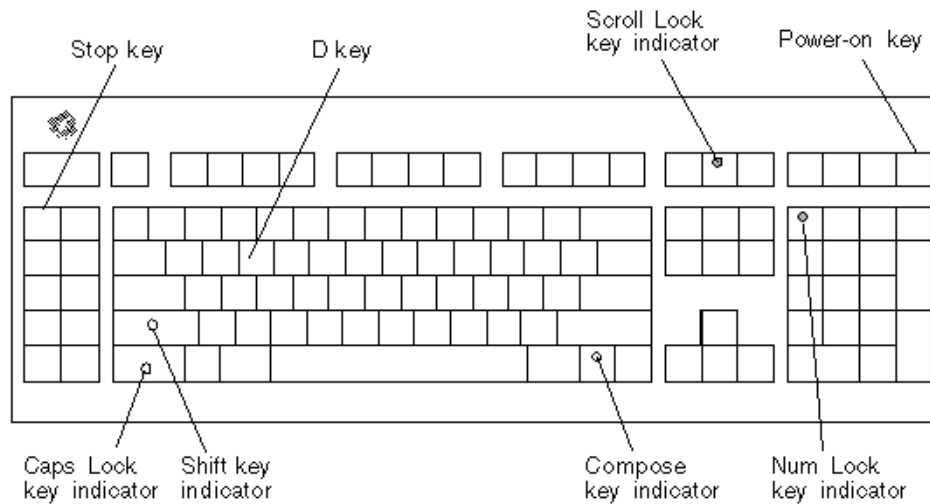

Figure 3-2 Sun Type-5 Keyboard
- 2. At the keyboard, power cycle the system unit by simultaneously pressing the Shift key and the power-on key (Figure 3-2). After a few seconds, press the power-on key again.**